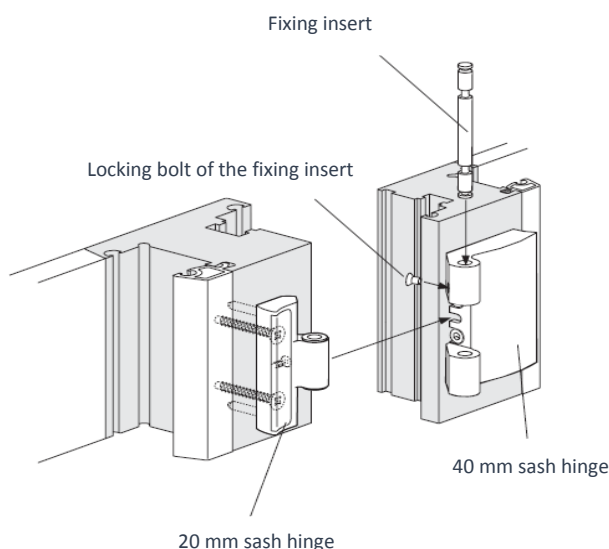

Figure 23. Fastening of ROTO Patio 6080 hinges, sash
14. Take 20 mm sash hinge from the hinge set, fix it to the sash with retainers and fasten with screws. 40 mm sash hinge shall be fixed with a fixing insert to another sash hinge, the fixing insert shall be fastened with a locking bolt. See Figure 23. Fastening of ROTO Patio 6080 hinges, sash